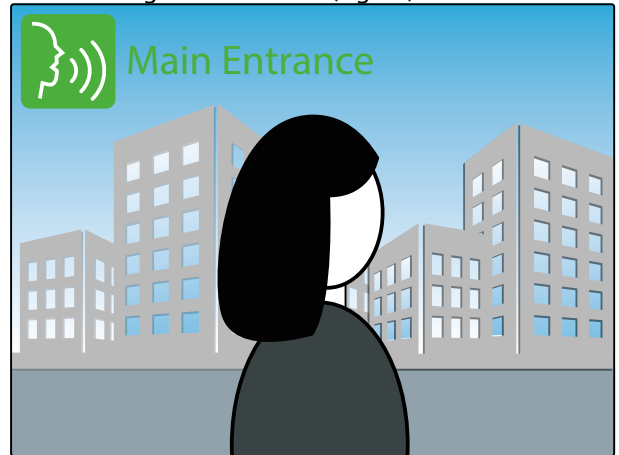

Fig. 44 The display shows the alternative video source
- The display now shows the video coming from the alternative video source (Fig. 44).